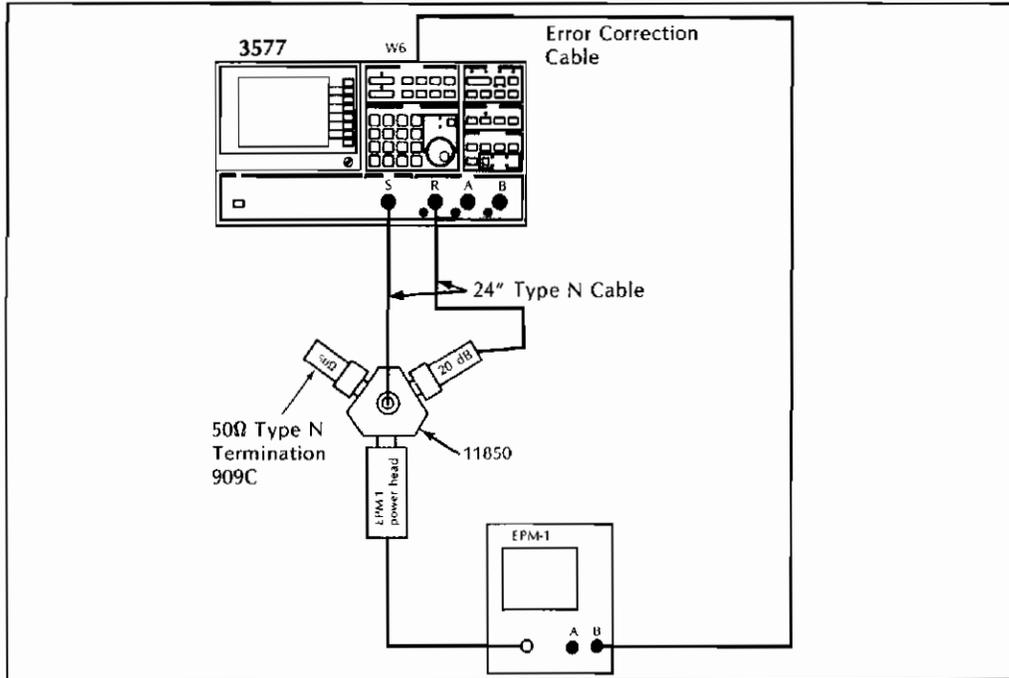

Figure 3-17 Channel R Calibration for Source Flatness and Accuracy
- m. Connect the equipment as shown in Figure 3-17.